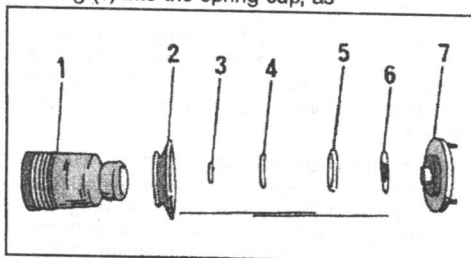

Fig. 5.6. — The parts on the upper end of a spring strut. Items 3, 4, 5 and 6 must be replaced when a spring strut has been dismantled.
- The rebound stop, the rubber protector and the washer, the needle thrust bearing, the seal, a second needle thrust bearing and the spring strut bearing must be replaced if no longer in good condition. If a spring strut is dismantled to replace a spring it is always advisable to replace the items 3, 4, 5 and 6 in Fig. 5.6. Take care not to damage the smooth surface of the piston rod when the spring strut is stored for later assembly.
- Place the upper spring cup onto its edge (upright position) and, using a small chisel or a screwdriver and knock the needle thrust bearing (6) in Fig. 5.6 out of the cup (7). Now place the spring cup with the smaller end onto a flat surface and drive out the bronze bush (3). A socket of suitable diameter is suitable for this operation.
- Push the new needle thrust bearing (6) into the spring cup, as